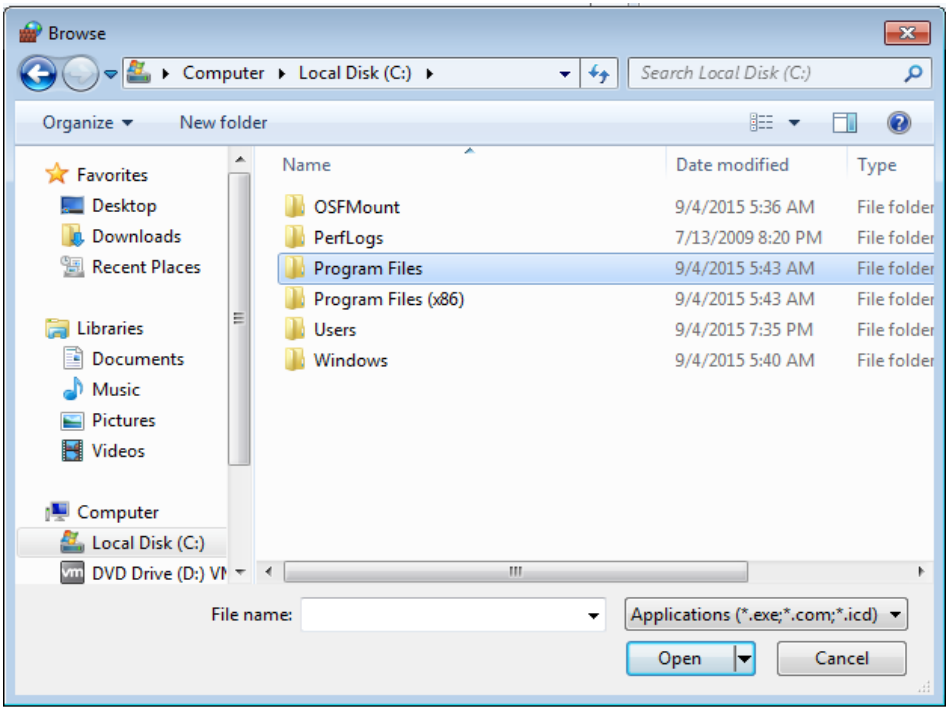

Fig.1.19 Local Disk C
(6) Click “Browse” and open Program Files folder in C (see Fig.1.19).